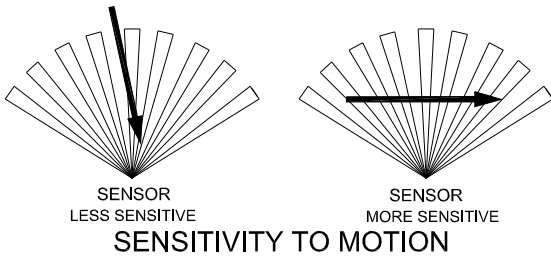

FIGURE 2
- The motion sensor is more sensitive to objects moving across its field of view. It is less sensitive to an object moving directly towards the sensor head. (FIGURE 2)